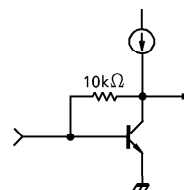

Fig.3
- IF limiter amplifier (See Fig.3)
The IF limiter amplifier is composed of six emitter-grounded amplifiers and a differential amplifier. The basis composition of the emitter-grounded amplifiers is shown as Fig.3.